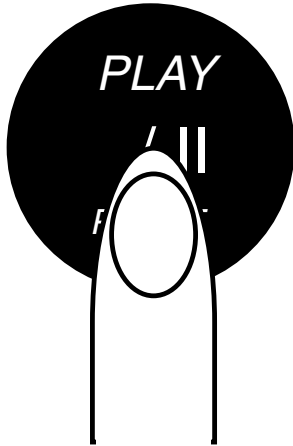

Fig. 10
- The point at which playback starts is automatically stored in the memory as the cue point. The pickup then returns to the cue point (the point at which playback started) when the CUE button is pressed. (Back Cue) (Figure 10)
- 1) Press the PLAY/PAUSE button during playback to pause at that point. (figure 10)